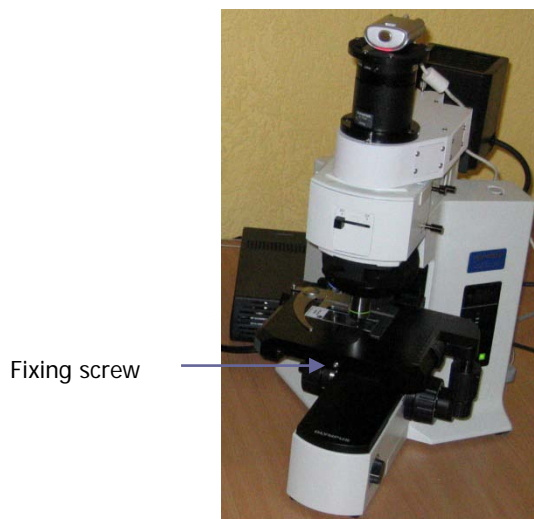

Figure 13 Fitting the stage (manual stage shown)
4. Ensure that the stage is level, and then fasten the stage in position by tightening the screw at the front of the stage (Figure 13).